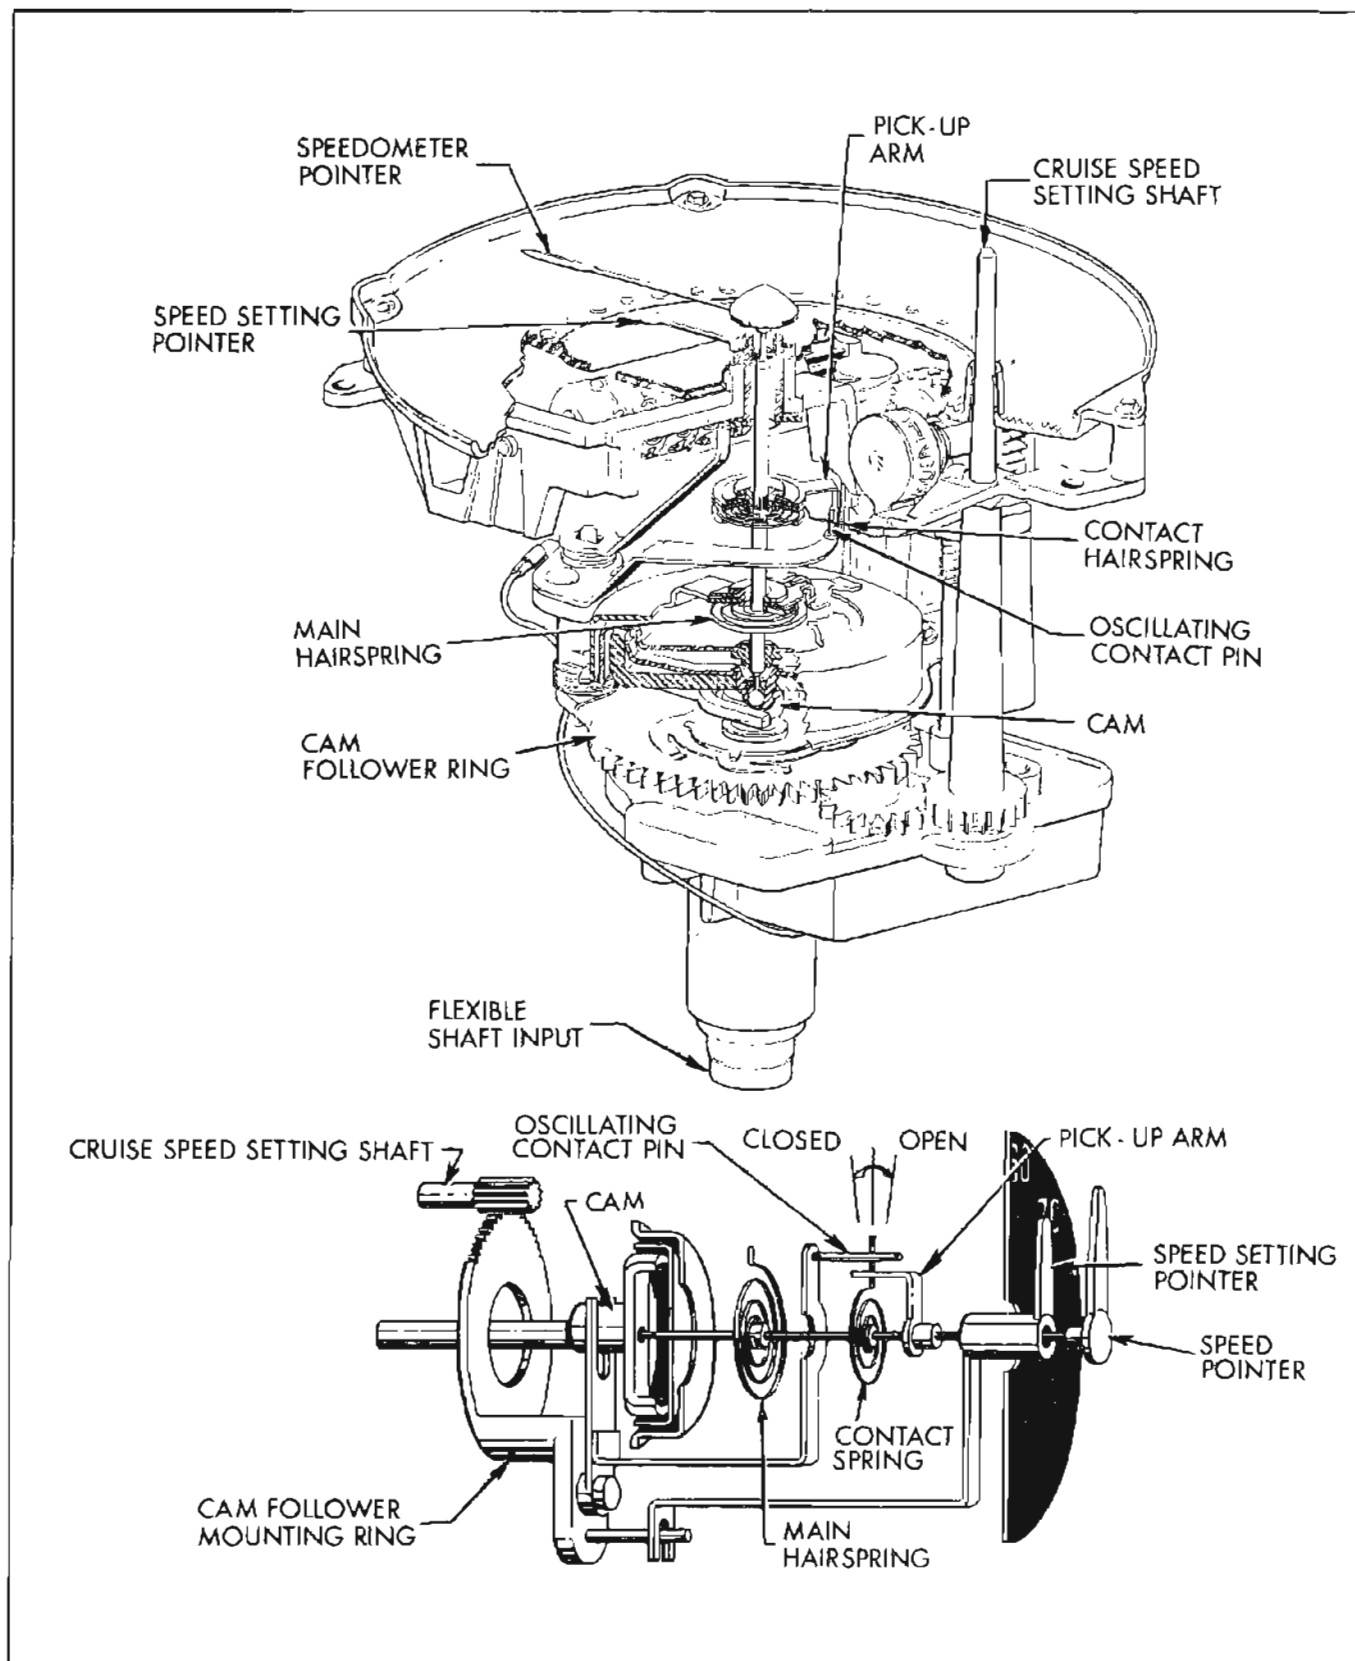

Figure 11-174—Speedometer and Speed Transducer - 49000 Series
- The speed transducer is integral with the speedometer and utilizes a cam, cam follower, oscillating contact spring and pickup arm to control the electrical impulses reflected from the electronic control unit to the power unit. See figure 11-174. Position of the oscillating contact pin, which determines the set speed, is adjusted by rotating the cam follower mounting ring through a gear arrangement with the speed setting shaft and knob assembly. Rotating the cam follower mounting ring also moves the speed setting pointer to indicate the relative position of the oscillating contact pin, and, therefore, indicate the actual set speed.